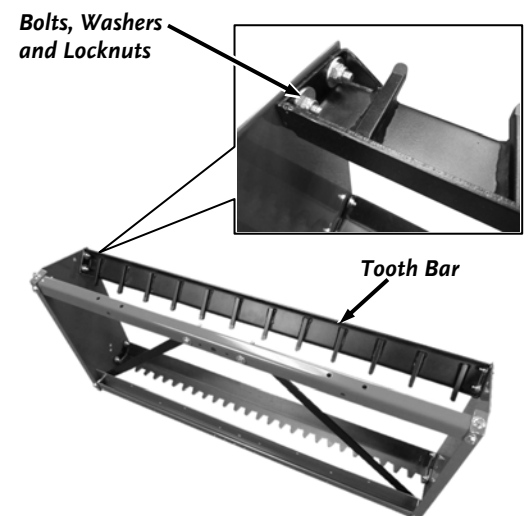

Figure 7
3. Position the Frame Assembly, with the front facing up, to gain access to the Tooth Bar area (**Figure 7**).